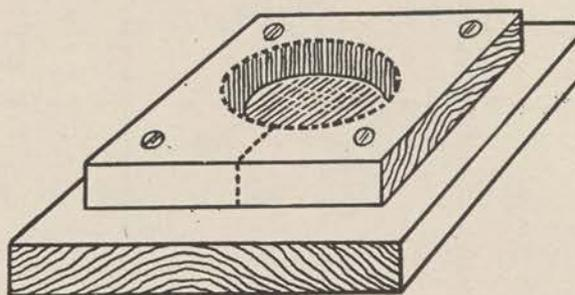

Figure 98.
f. Another type of mold for forming the ash tray may be made by cutting a circle the exact diameter of the bottom in a thin plank of wood. A coping saw is used in this operation. The plank is then screwed or nailed to another board which provides the bottom of the mold (fig. 98). The tin is held stationary over the depression and hammered as above. It does not have to be moved as work